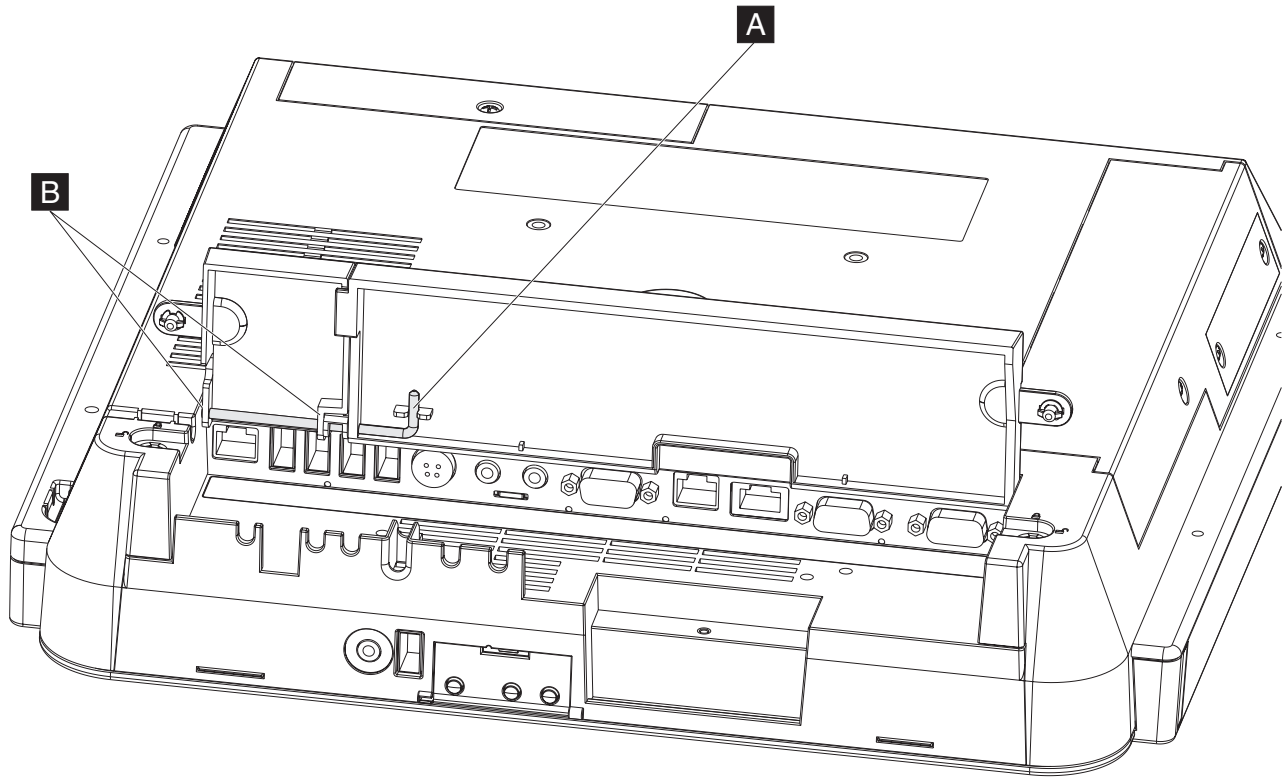

Figure 28. Removing the hinge pin
2. Remove the hinge pin (**A** in Figure 28) that holds both the MSR/USB cover and the main cable cover by rotating it downward, then sliding it to the right.